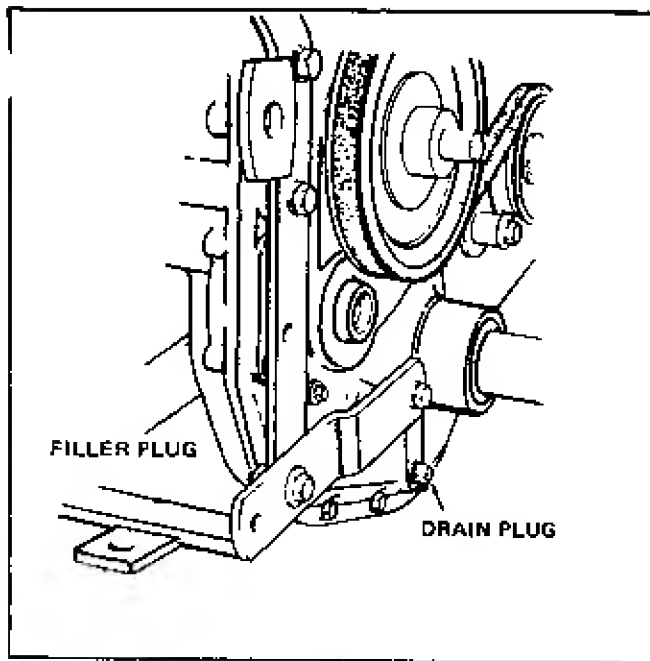

Figure 7
- (1) Rear Axle Tube - Figure 7
The transmission has a capacity of 1-1/2 qts. of SAE 90 oil and is filled at the factory. It will not normally require replenishment, but occasionally check drain plug for tightness and axle tube oil seals for leakage. Maintain oil level at lower edge of filler plug hole. Remove vent plug from top of transmission and allow oil to settle to normal level before checking. See Figure 7.